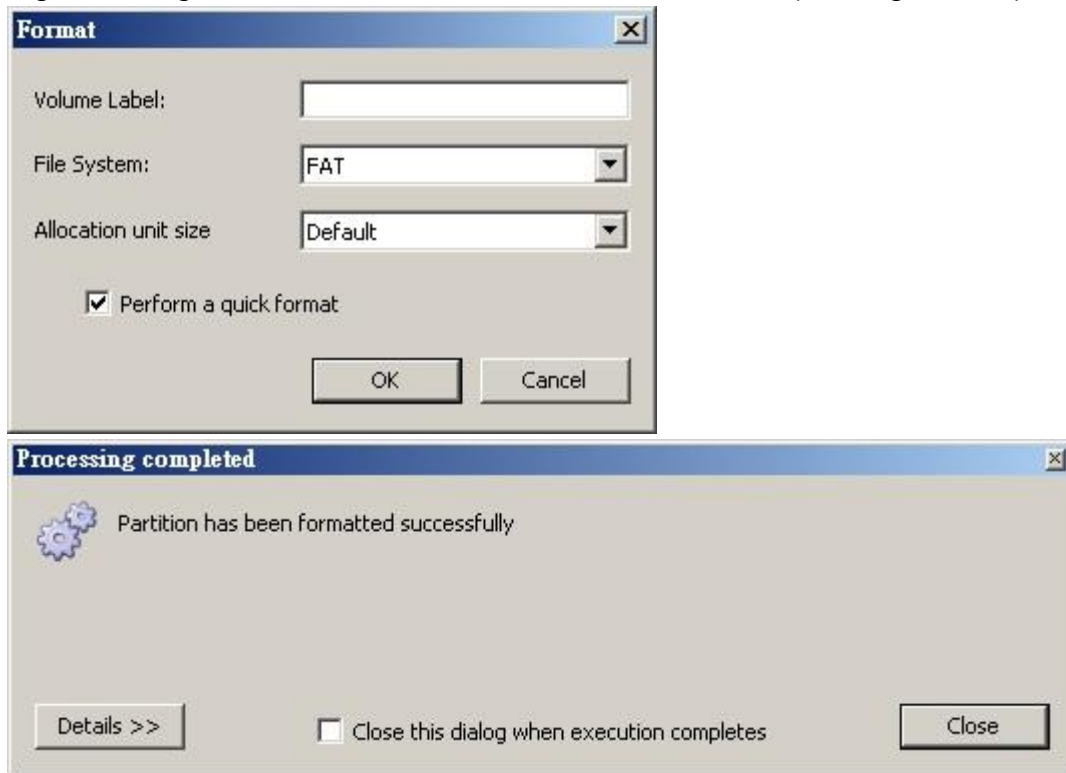

Figure 125
- Right click again and choose format, Click OK, finished (see Figure 125)